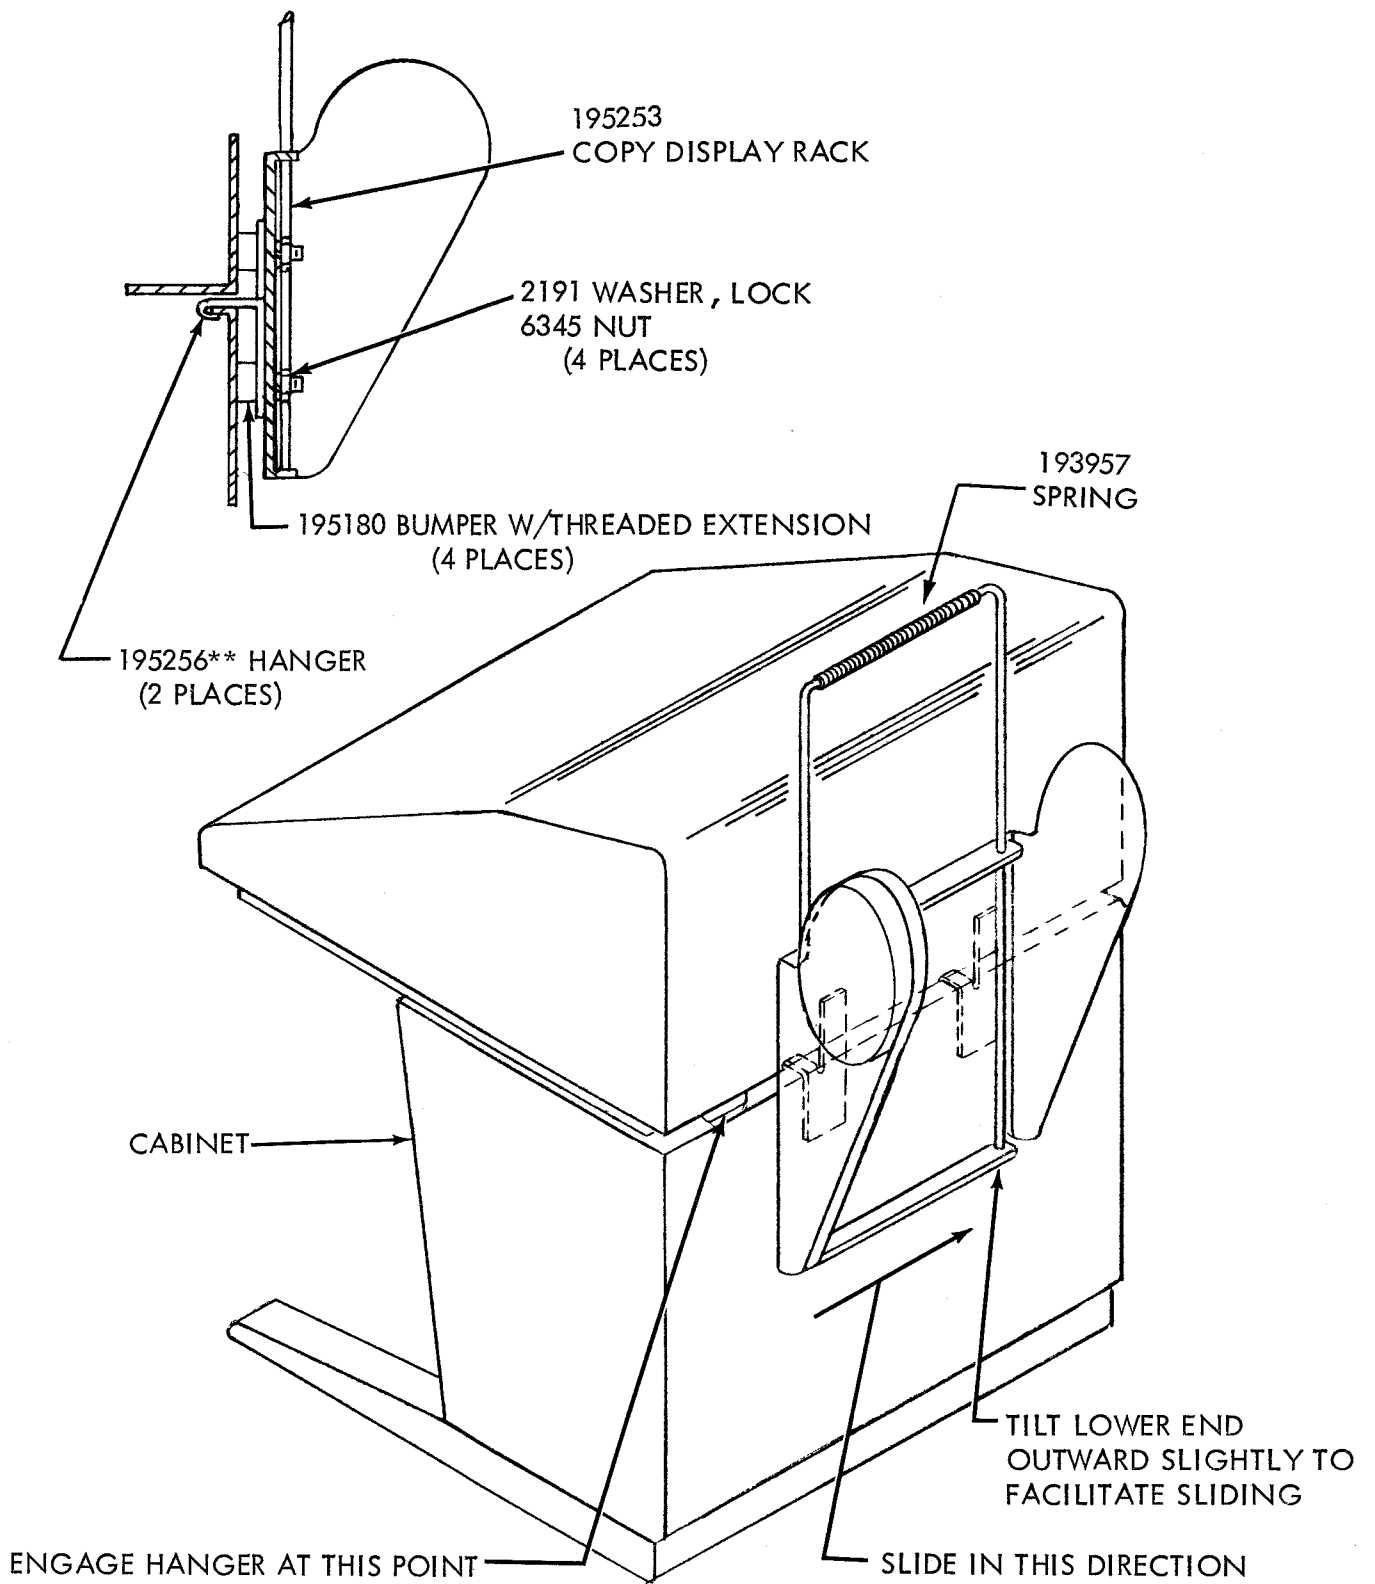

FIGURE 2. INSTALLING LPW300** PAPER WINDER ON A MODEL 32 OR 33
b. Installing LPW300** Paper Winder on Model 32 or 33 Console Cabinet using the associated 195259** Modification Kit (Figure 2).
(1) Loosen the screw securing the 193953** Motor Housing to the winder and remove the housing.
(2) Remove the two resistor leads from the terminal block assembly and tape the resistor leads from interference with other wiring and moving parts.
(3) Adjust the winder mercury switch per Servicing Section (Paragraph 4.a.). Replace the 193953** Motor Housing and tighten the retaining screw.
(4) Secure the two 195256** Hangers to the paper winder using four 195180 Bumpers w/Threaded Extensions, 2191 Lock Washers and 6345 Nuts. See Figure 2.
(5) Looking at the rear of the cabinet, hook the right hanger over the top ledge of the removable panel. Tilt the lower end of the winder outward slightly and slide the winder to the right until the left hanger engages the ledge of the panel. See Figure 2. Position winder for alignment of winder spindle with typing unit platen.